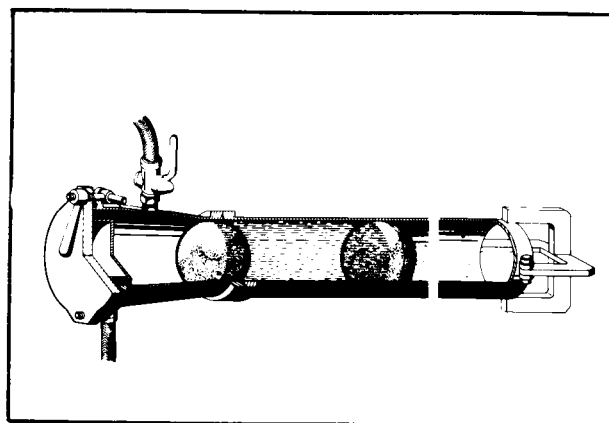

Fig.: 3
- Cleaning head and trap basket (Fig.: 3)